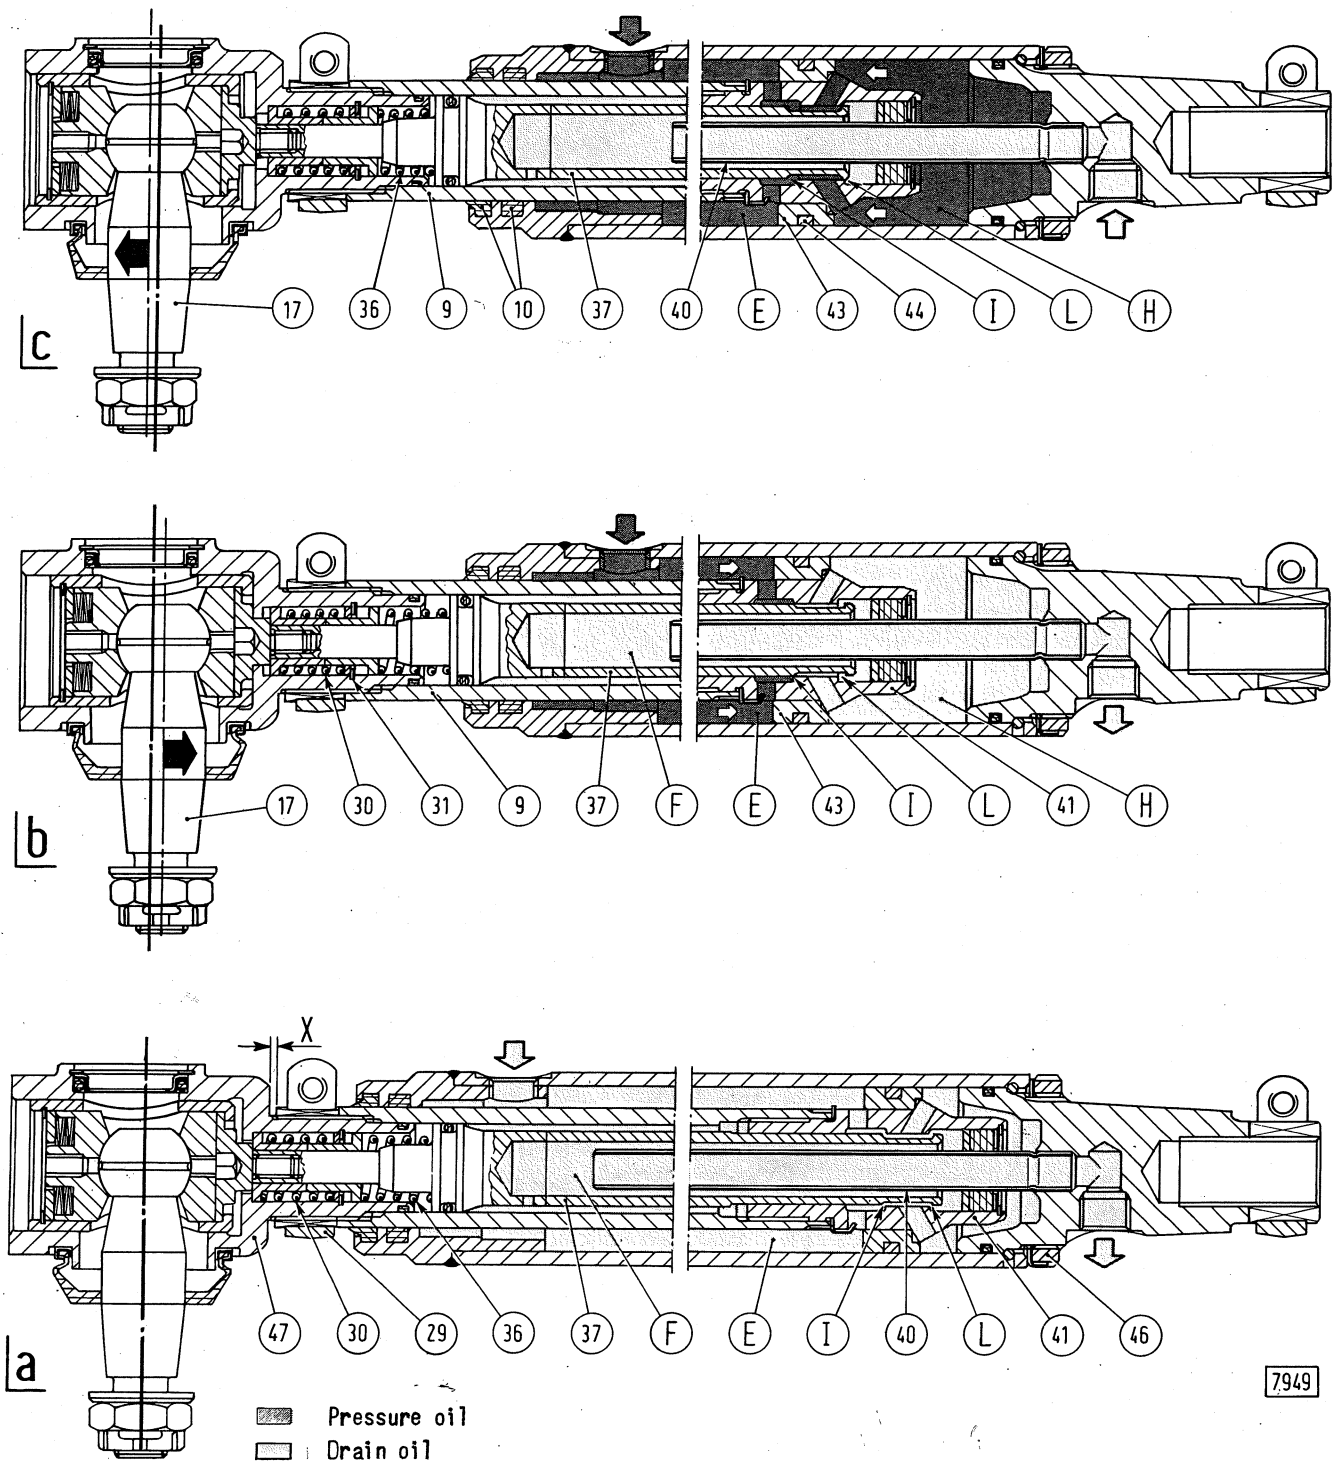

Fig.10 - Working diagrams of power steering cylinder.
The front ball-head pin (17, Fig. 10) of the operating cylinder rod, actuated by the draglink, sets the cylinder control valve (37) in the following positions :
a) Neutral position : power cylinder inoperative. In this position the control valve rod (37) remains in a balanced position between shoulders of valve spool (41) because of the force exercised by the springs (30 and 36) leaving the ports (I and L). This allows the oil delivered by the pump to flow back, through ports (E and F) and line (40) into discharge.
b) Retracted position : turning to the left. If the front ball stud (17), is subjected to a side force acting upon
The trouble occurs when, in neutral position (a, Fig.10) the control valve rod (37) is not in a centered position between shoulders of valve body (41). If port (L) is restricted, the tractor tends to steer to the right ; if port (I) is restricted the tractor tends instead to turn to the left.